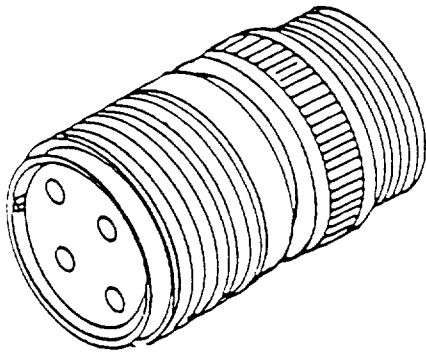

Figure 5. Typical Cable Receptacle
9. **Cable Receptacle.** Cable receptacles (Figure 5) are used when two cables are to be connected together.